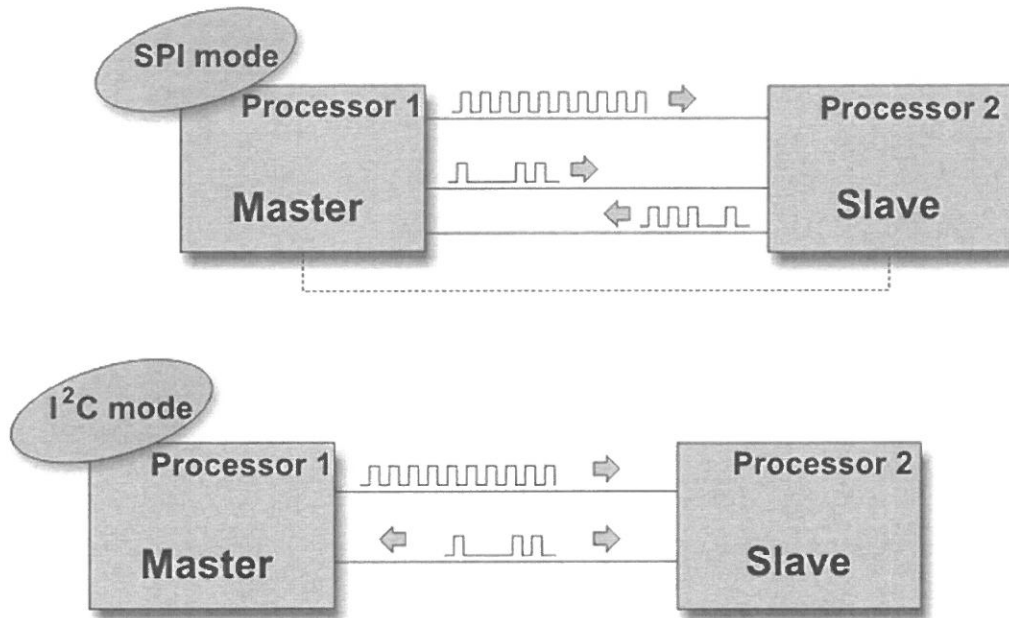

Figure 3(b) Serial communication.
- (b) Describe the serial communications used in PIC microcontroller shown in Figure 3(b). Provide TWO (2) comparisons between SPI mode and I2C mode as shown as Table 3(b).